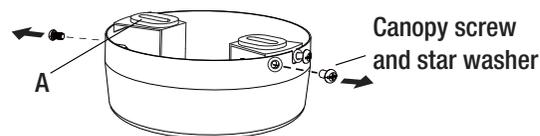

Figure 4
- Remove the mounting bracket (A) from the canopy (B) by loosening the two canopy screws and star washers located in the L-shaped slots. Remove the two canopy screws and star washers in the round holes and save them for later use. This will enable you to remove the mounting bracket (A). (Figure 4)